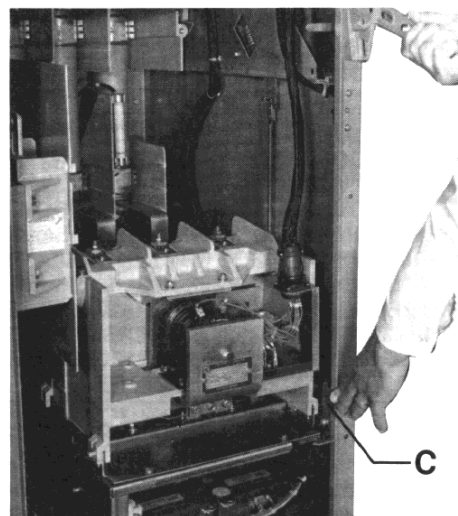

FIGURE 16
2. While maintaining the handle in this position using minimum amount of pressure, press in on the door interlock connecting rod (C) (See Figure 16) and...